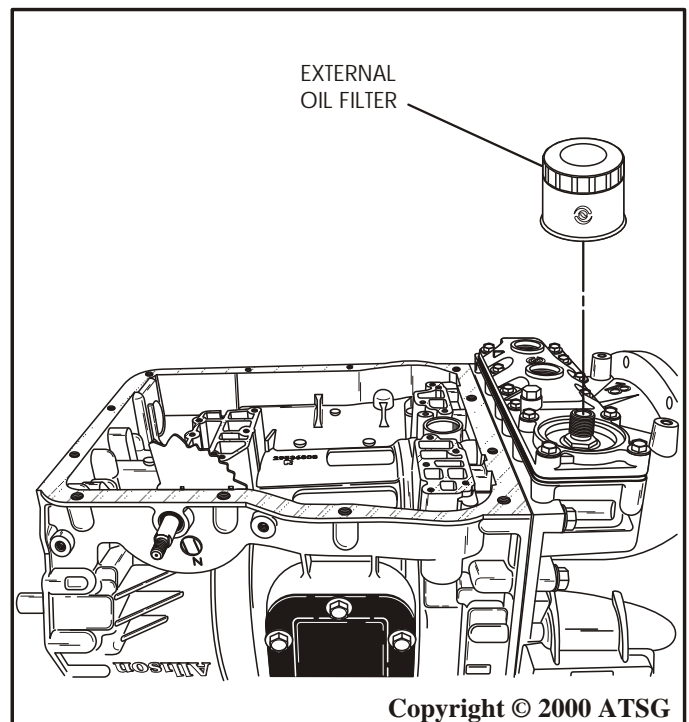

Figure 170
54. Install a new external transmission filter onto cooler manifold, as shown in Figure 170.